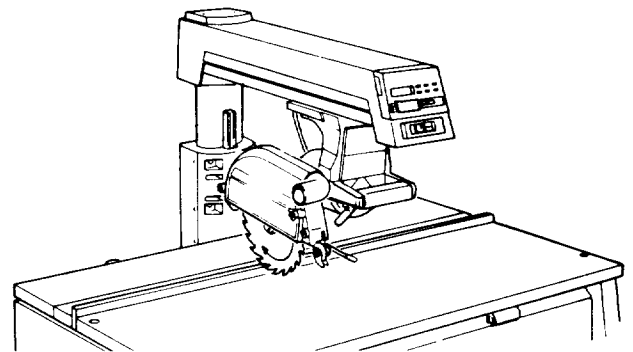

Fig. 102
2. Place the *guard* over the *blade*. You will feel the *guard* fall into place when the ridge on the inside of the *guard* slides into the slot on the *motor*. (Figure 102)
3. Make sure that the lower edge of the *guard* is parallel to the *table*. (Figure 102)